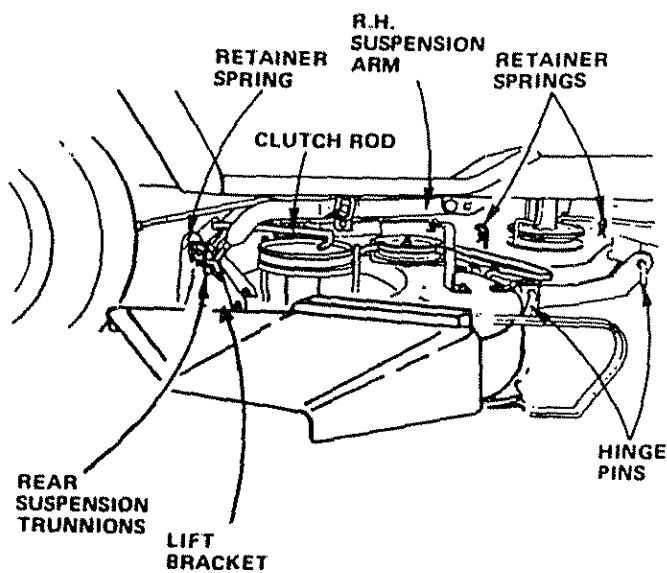
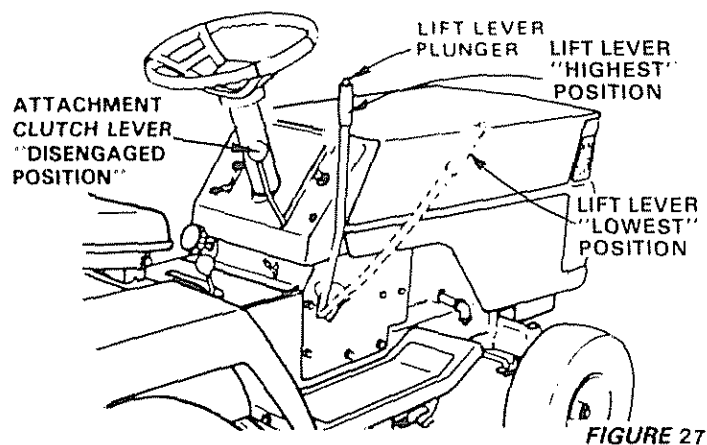
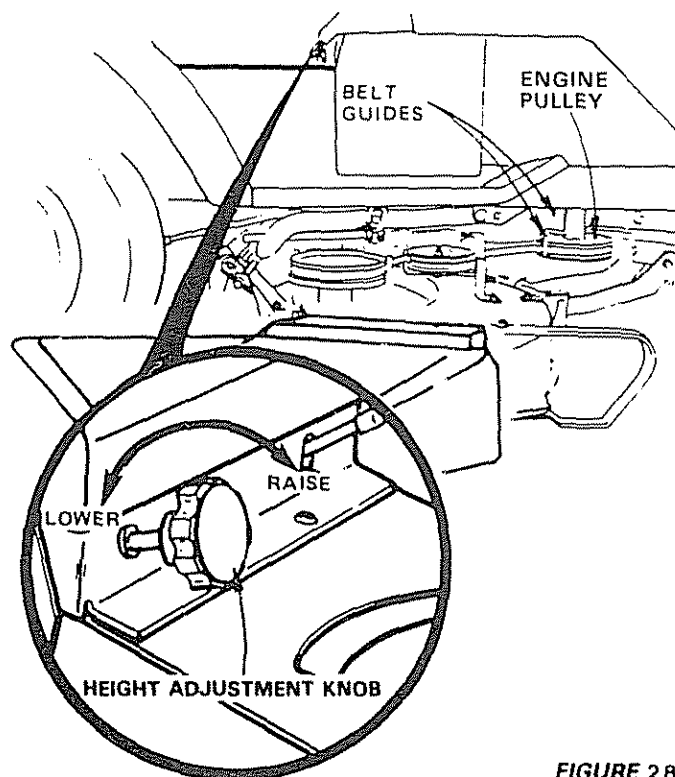

FIGURE 26
FIGURE 27
FIGURE 28
- Check that hole in throttle lever and hole in plate line up (Fig. 27 - Inset). If holes "A" are not aligned, loosen clamp screw and move throttle cable until holes are aligned. Tighten clamp screw.
- b. Remove retainer spring from clutch rod; pull clutch rod out of clutch bracket.(Fig. 26)
- c. Pull retainer springs out of rear suspension trunnions. Remove rear suspensions trunnions from lift brackets (Fig. 26).
- d. Pull retainer spring out of rear hinge pin. Remove rear hinge pin.(Fig. 26)
- e. Pull retainer spring out of front hinge pin. Remove front hinge pin (Fig.26).
NOTE: IF AN ATTACHMENT OTHER THAN THE MOWER DECK IS TO BE MOUNTED ON THE TRACTOR, THE L.H. AND R.H. SUSPENSION ARMS (FIG. 26) SHOULD BE REMOVED FROM TRACTOR.
Your Mower installs without the use of tools. Raise Attachment Lift Lever (Fig. 27) to its highest position. Turn height adjustment knob to lowest position (Fig. 28).
- Move Attachment lift lever (Fig. 27) forward to lower suspension arms. Slide trunnions through lift bracket holes and secure with retainer springs (Fig. 26)
- Roll belt over engine pulley. Make sure belt is inside belt guides (Fig. 28). See belt drive schematic decal on mower housing.
- Use Attachment lift lever (Fig. 27) to raise mower.
- Turn height adjustment knob clockwise (↻) to the middle of its travel, or to desired cut height (Fig. 28)
- Place attachment clutch lever in "Disengaged" position (Fig. 27).
- Turn height adjustment knob to lowest position. Move Attachment lift lever (Fig. 27) forward to lower mower to its lowest position.
- Roll belt off engine pulley (Fig. 28).